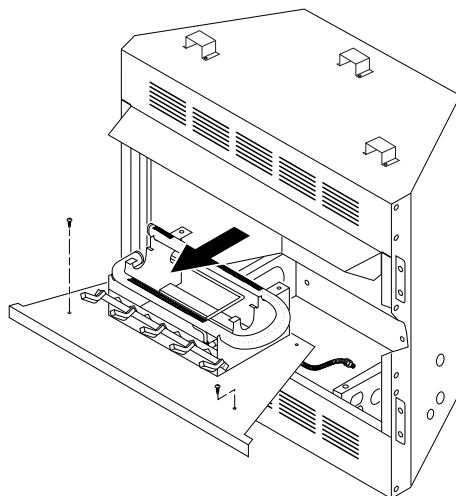

Figure 20 - Removing Log Base Assembly From Fireplace
2. Remove screws that attach log base assembly to fireplace (see Figure 20). Carefully lift up log base assembly and remove from fireplace without disturbing the brick liner panels (see Figure 20).